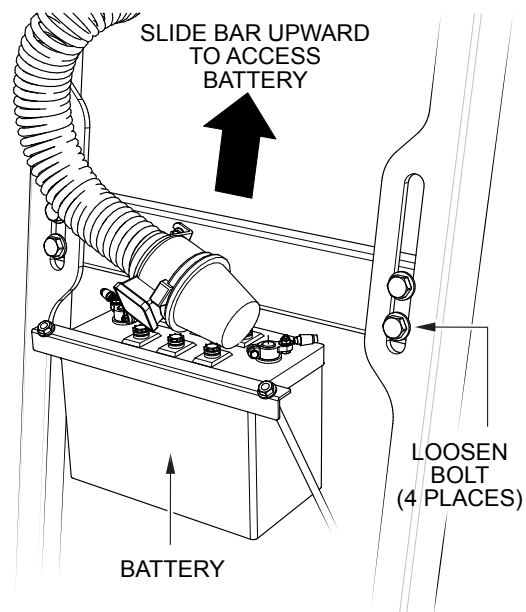

Figure 34. Raising The Battery
2. Loosen the two bolts on each side of the bar connecting the battery to the side rails (Figure 34).